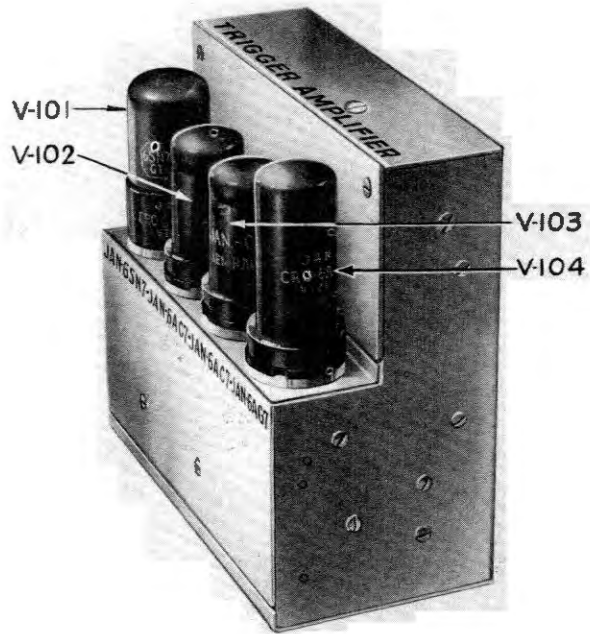

Figure 1-5. Trigger Amplifier—Outside View
(2) The trigger amplifier unit contains both the inverter and trigger amplifier, however they are separate and perform separate functions. (See figure 1-5.) Connecting plugs are on the bottom.